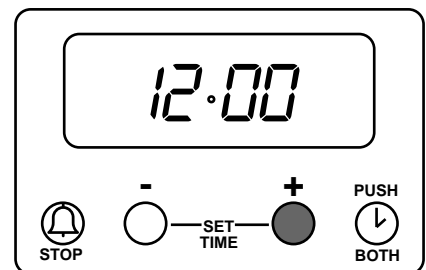

Fig. 6.5
**Within 5 seconds**, press and hold either button (1) to decrease or button (2) to increase the time until the correct time of day on the 24 hour clock is reached, e.g. 14.30. See Fig. 6.5.